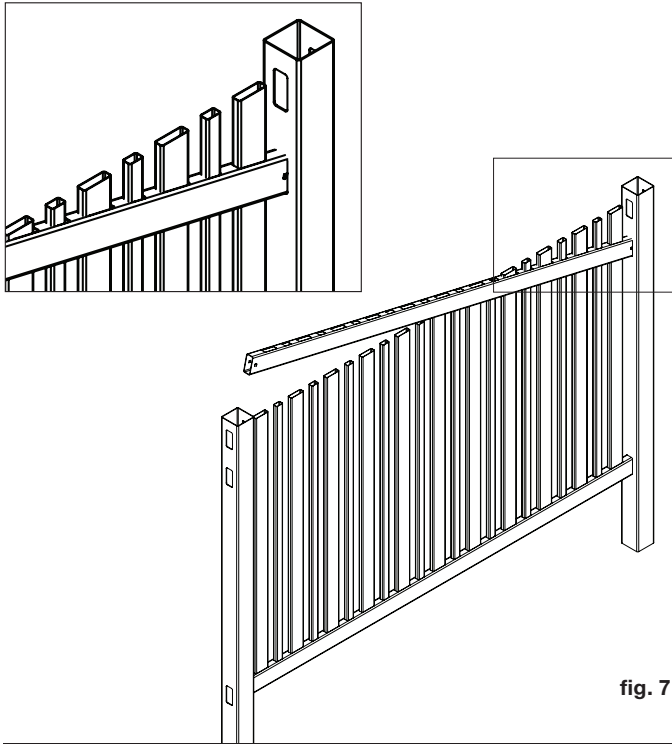

fig. 7
**STEP 5** – After all pickets have been inserted, place the mid rail channel-side down into the middle-routed hole of the first post. The second post may need to be shifted slightly until the rail fits into the middle-routed hole (fig. 7).